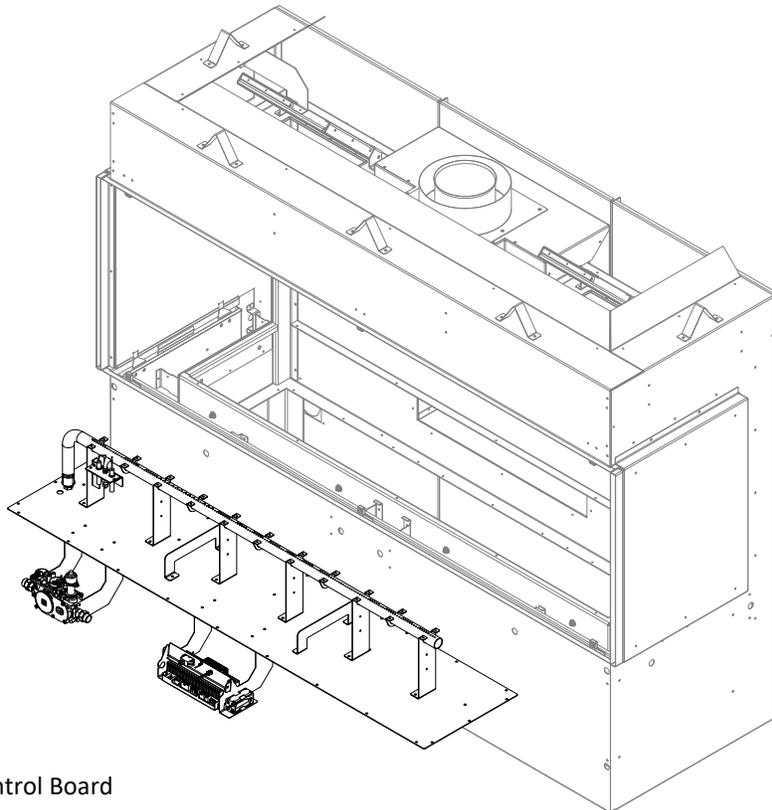

Figure 7.19 - Remove Control Board
5. Remove the (24) sheet metal screws securing the control board to the bottom of the firebox. Figure 7.19.